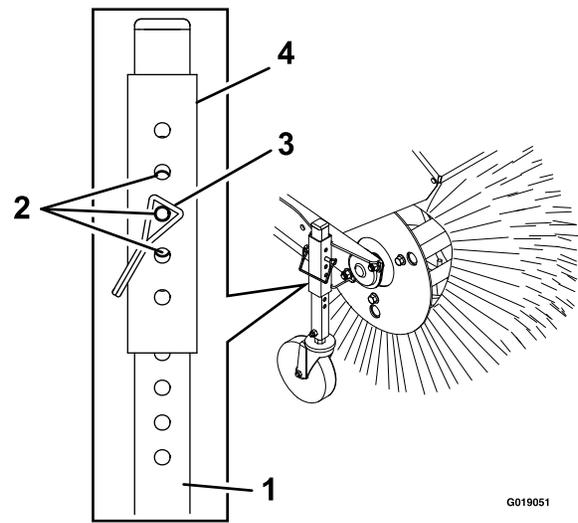

Figure 12
7. For fine tuning adjustments, slide the adjuster sleeve one pin hole up or down on the caster wheel tube to adjust the broom height in 3 mm (1/8 inch) increments (Figure 12). Repeat for the other caster wheel.